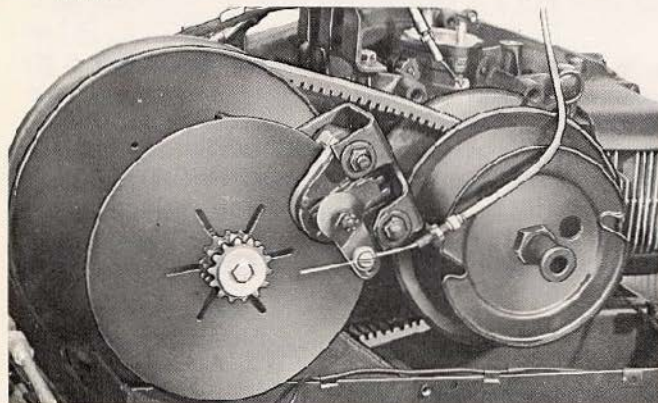

FIGURE 10
3. Wind starter rope, provided in tool kit, around sheave in counterclockwise direction and pull. Be sure to grasp starter rope handle securely. Figure 10.